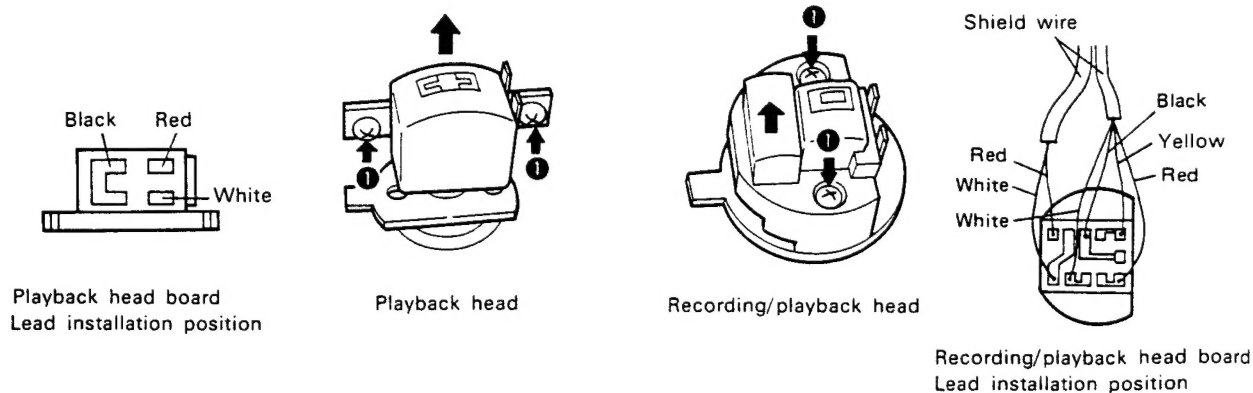

Fig. 13-7 Removal of head assembly
2. Remove 2 screws ❶ for head installation and pull out the head assembly. (See Fig13-7)
4. Solder the new lead wires to the new head. (See Fig13-7)